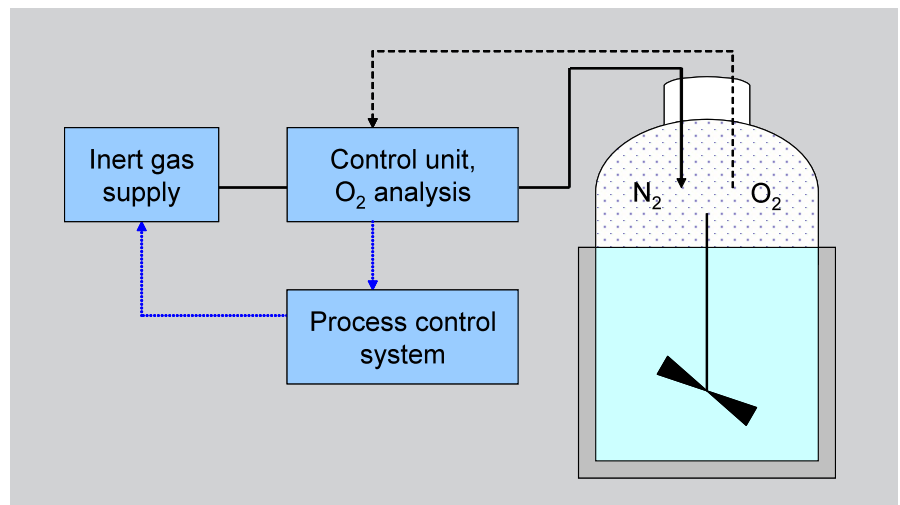

Figure 2. Flow through inerting of a chemical reactor or a storage tank.
- Flow through inerting: Inert gas is fed into the system from a gas inlet and simultaneously vented at another point (Figure 2).
Oxygen monitoring is the only one of the previously mentioned methods, where the composition of the inert atmosphere is controlled, see an example in Figure 2. Oxygen